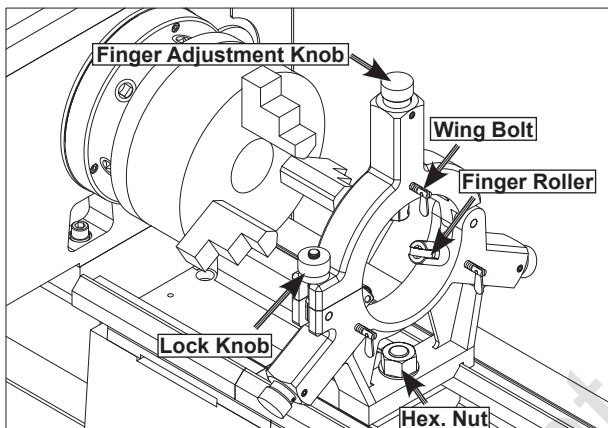

Figure 29. Steady rest components.
3. Position the steady rest where required to properly support the workpiece, then tighten the hex nut shown in Figure 29 to secure it in place.